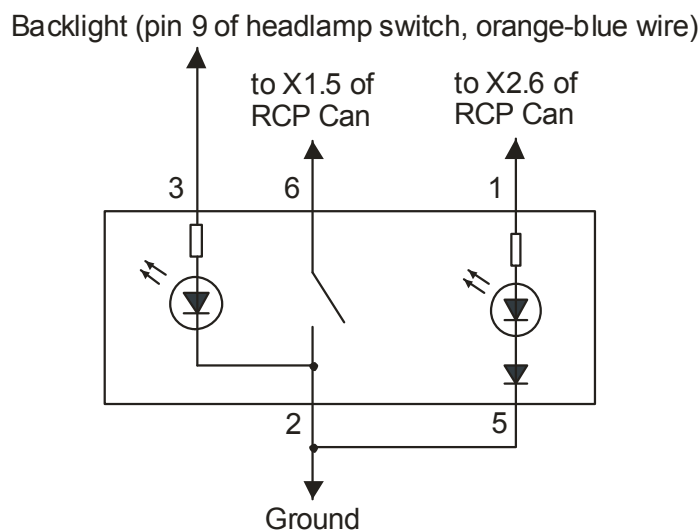

Figure 2
- Original Ford windscreen or back glass heating button can be additionally installed as a heater control button. The button pinout presented at the figure 2. Buttons are optionally available.